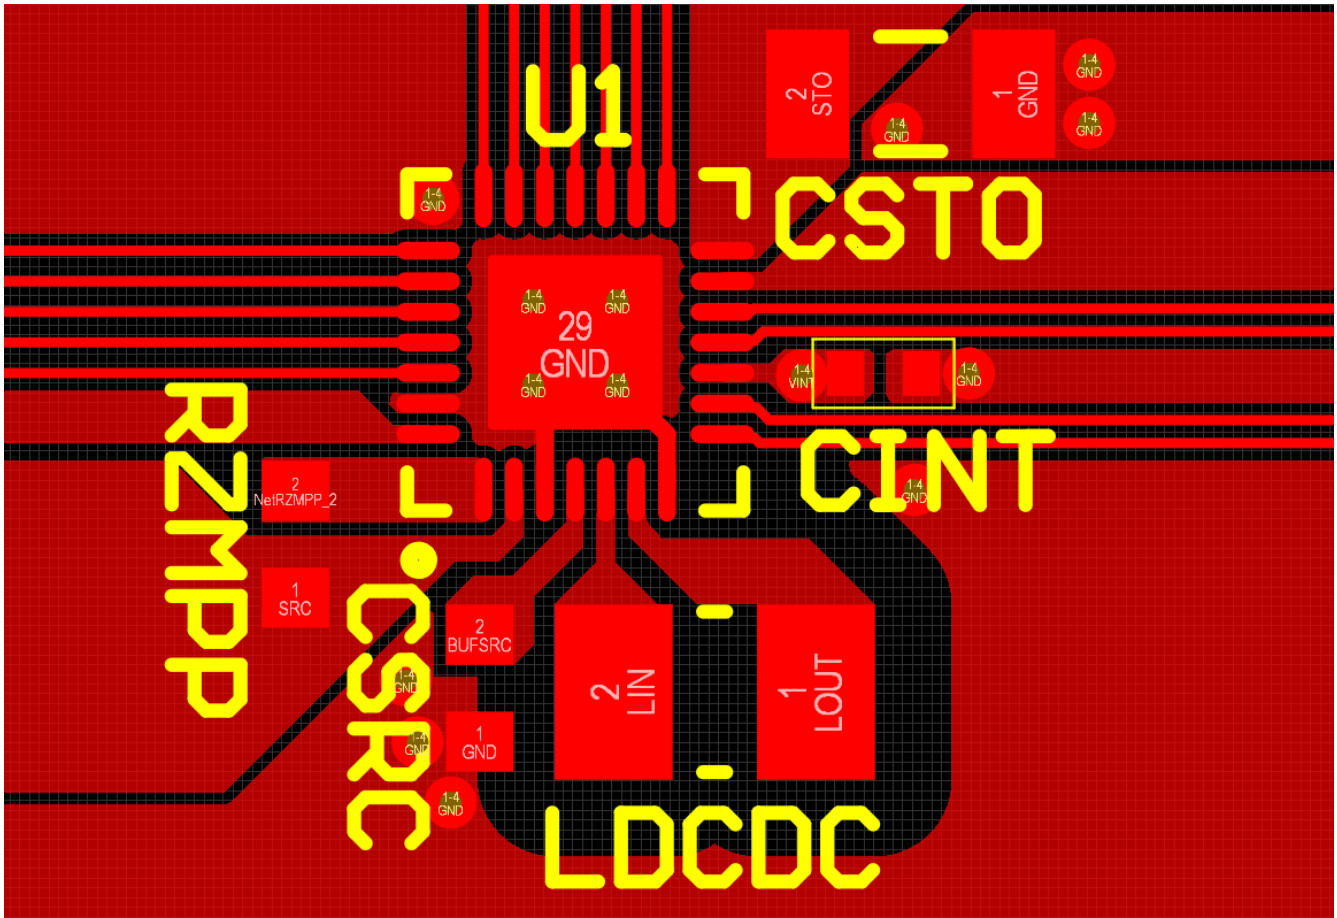

Figure 16: Layout Example for the AEM30300 and its Passive Components
- The switching nodes (**LIN** and **LOUT**) must be kept as short as possible, with minimal track resistance and minimal track capacitance. Low resistance is obtained by keeping track length as short as possible and track width as large as possible between **LDCDC** and the AEM30300 pins. Minimal capacitance is obtained by keeping distance between **LIN/LOUT** and other signals. We recommend removing the ground plane, the power plane and the bottom layer ground pour under **LDCDC** footprint, as well as adding distance between **LIN/LOUT** and the top ground pour, as shown on Figure 16.